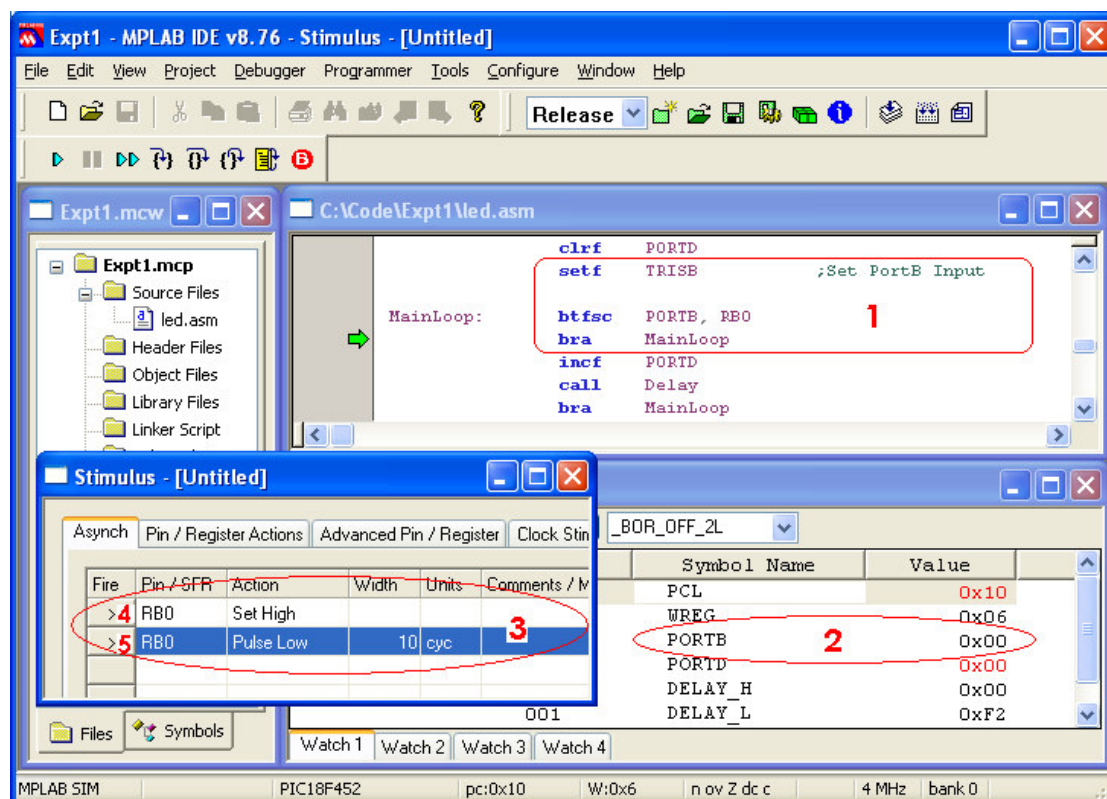

Figure 15 – MPSIM with Stimulus
32. Modify the program shown in Fig. 8 by adding the following 3 lines of code at location near the MainLoop label (see Fig. 15, Label 1):
33. Click **"Project"**, **"Build All"** to rebuild the code. Add **"PORTB"** to the Watch window (see **Step 19**). Click **"Debugger"**, **"Stimulus"**, **"New Workbook"** to activate Stimulus. The Stimulus window would pop up. Select the first stimulus entry with **Pin/SFR = "RB0"** and **Action = "Set High"** (see the row labeled 4 in Fig. 15). This stimulus imitates the event in which RB0 (PORTB Bit 0) was set to logic high. Set 2nd Stimulus entry with **Pin/SFR = "RB0"**, **Action = "Pulse Low"**, **Width = "10"** and **Units = "cyc"** (see the row labeled 5 in Fig. 15).
34. (?) Click **"Debugger"**, **"Reset"**, **"Processor Reset"** to reset the microcontroller. Click Stimulus #1 Fire button **">"** (Fig. 15, Label 4) once to set RB0 to high. Click **"Debugger"**, **"Animate"** to run the code in animation mode. Describe your observation. Click Stimulus #2 Fire button **">"** (Fig. 15, Label 5) to set RB0 to low for 10 cycles. Describe your observation.